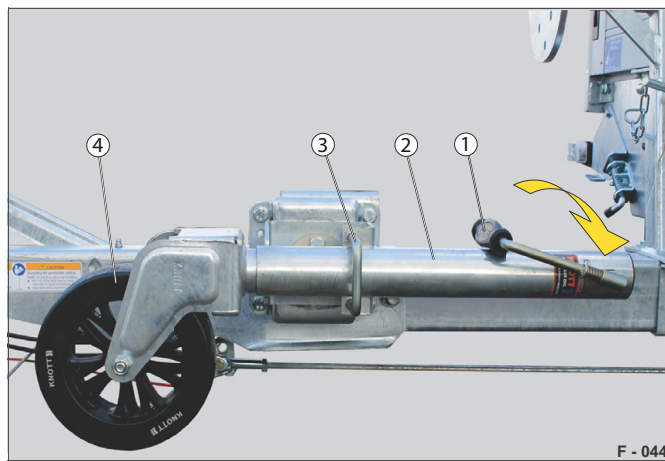

Fig. 18 Jockey wheel in driving position
- Crank the jockey wheel (Fig. 18 /4) up.
- Position the crank (Fig. 18 /1) into folded in position.
- Pull on the latch (Fig. 18 /3) while pivoting the jockey wheel into a horizontal position.